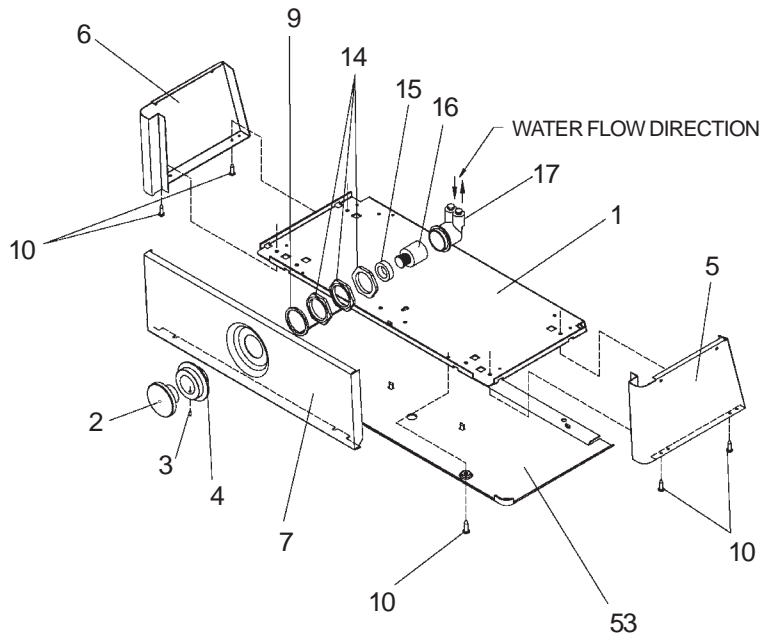

FIG. 3
- 8) Stream height is factory set at 45-50 PSI. If supply pressure varies greatly from this, adjust the screw on regulator item 16 by using a small screwdriver through the small hole in the push button item 2 (See Fig.3). CW adjustment will raise stream and CCW adjustment will lower stream. For best adjustment, stream should hit basin approximately 6-1/2" (165mm) from bubbler.